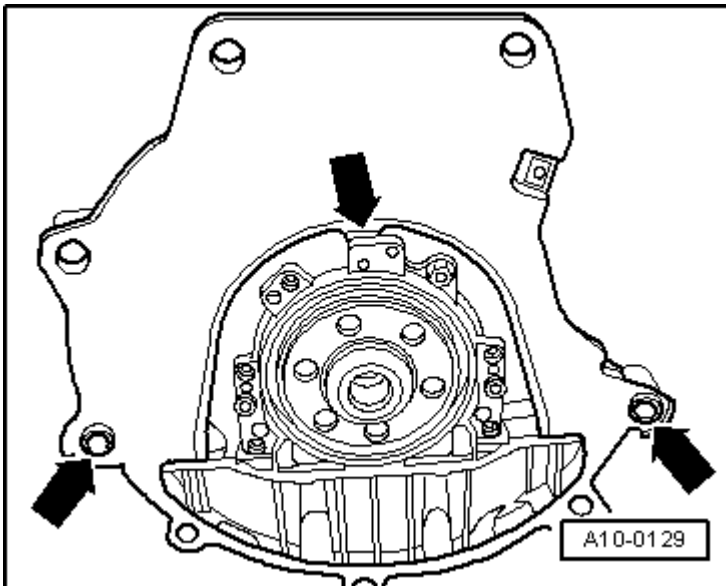

Fig. 11: Identifying Intermediate Plate Alignment Bushings
- Is hooked in at the sealing flange, refer to **Fig. 11.**